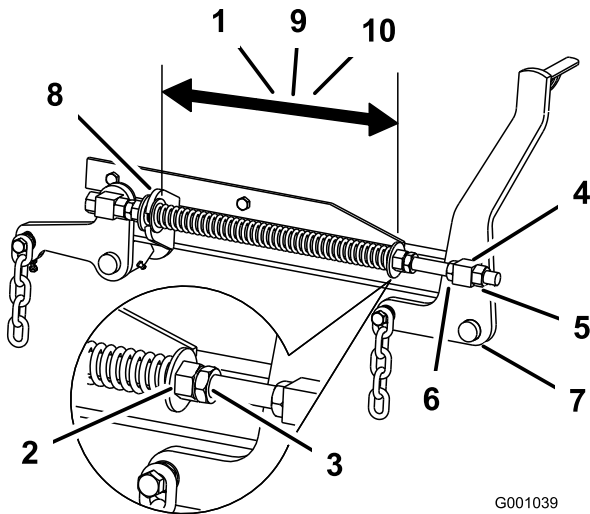

Figure 82
2. Check the distance between the two large washers, it needs to be 11-1/8 inches (28.2 cm) for 52 inch mower decks, 10-1/2 inches (26.7 cm) for 60 inch mower decks or 11-1/2 inches (29.2 cm) for 72 inch mower decks (Figure 82).
3. Adjust this distance, by loosening the spring jam nut and turning the nut in front of each spring (Figure 82). Turning the nut clockwise will shorten the spring; counter-clockwise will lengthen the spring.
4. Lock the nut into position by tightening the spring jam nut (Figure 82).